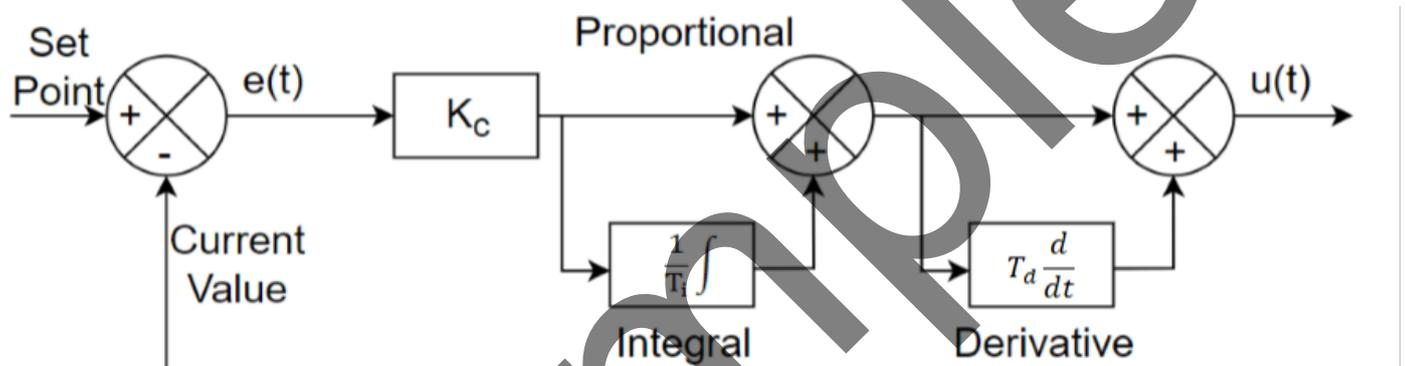

Fig.3.6: Interactive algorithm block diagram
**Interactive Algorithm** – One of the oldest PID control algorithms, this algorithm is still found in many controllers today and was used in the original pneumatic and electronic control systems. The block diagram of the interactive algorithm is shown in Fig.3.6 below.